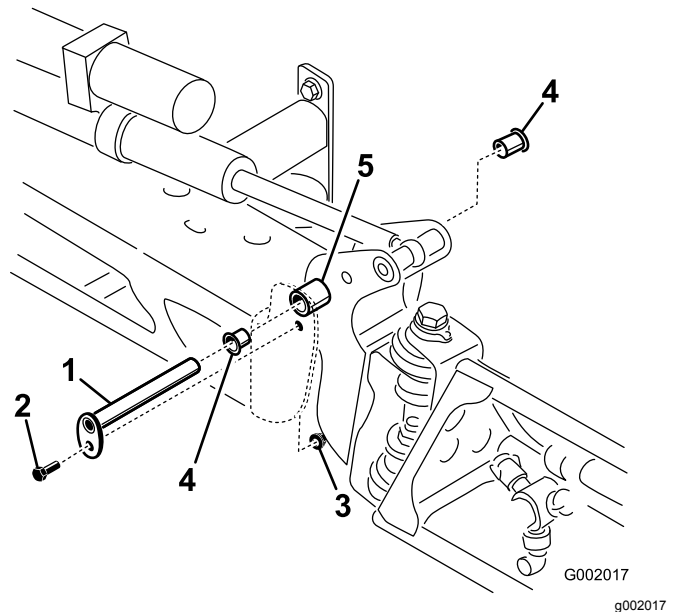

Figure 103
3. With the weight of the boom supported, remove the bolt and nut securing the pivot pin to the boom assembly (Figure 103).
4. Remove the bolt and nut that secure the pivot pin, and remove the pin (Figure 103).
6. Remove and inspect the nylon bushings from the front and back sides of the pivot bracket (Figure 103).
7. Place a small amount of oil on the nylon bushings, and install them into pivot bracket (Figure 103).
8. Install the boom and pivot bracket assembly into the center frame, aligning the holes (Figure 103).